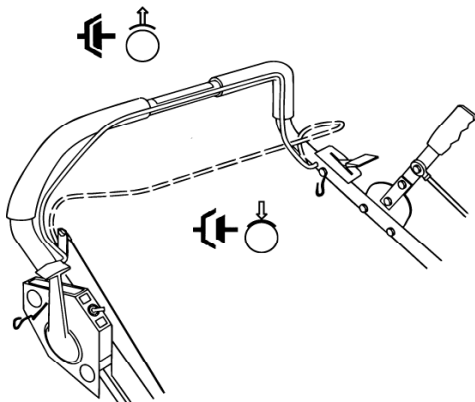

Fig. 7
PROPULSION: VQ self-propelled vacuums are equipped with 5 forward gears, neutral and reverse. With the engine running, the bail in released position and brake in on position, select desired drive gear. Pull bail against handle to engage drive (see figure 7). Smoothly engage the bail. Parking brake engages when the bail is released. To freewheel, set transmission control in neutral and pull back on bail. Use good judgment when operating the self-propelled drive. Fifth gear is faster than walking speed and should normally be used only for moving quickly from place-to-place. Using neutral, on level terrain is advisable when maneuvering in tight areas. This increases operator control, and can prevent bumping into nearby objects. Do not force-shift gears of transmission. To assist gear meshing, it may be necessary to partially engage bail while shifting. To stop machine, release operator's bail (this engages the parking brake). Do not shift the transmission while unit is moving. Internal damage to transmission can result
With operator's bail released, pull shift lever back and depress wire stop (item 90) to continue to the reverse position. Then smoothly pull operator's bail against handle. Release bail to stop (see fig 7).